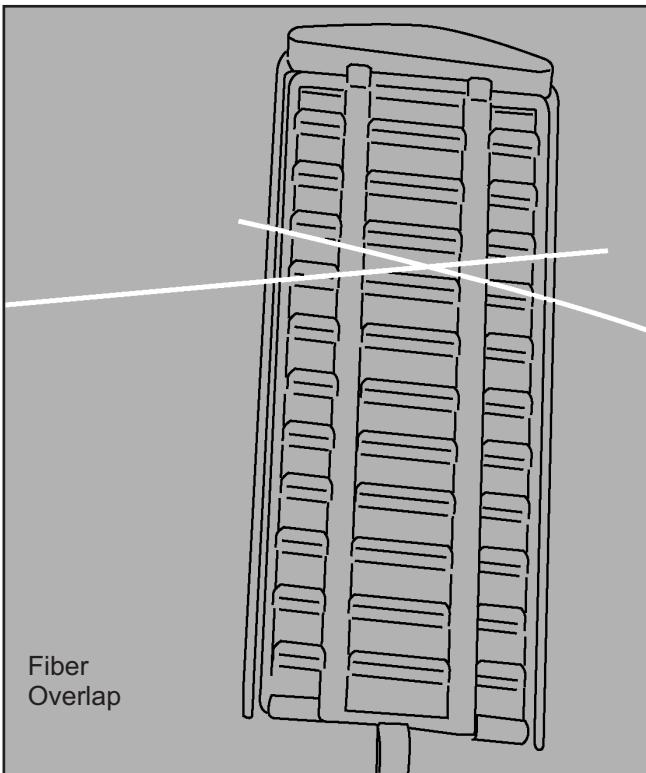

Figure 14
- By color code, select the individual fibers from the "express" and "drop." Buffer tubes should be spliced and route around the SLIDE-N-LOCK splice tray in opposite directions. Allow up to 1 meter (39") of fiber to be stored each side of the splice. Cut an overlap of approximately 60mm (2.3") at the point of splicing. (Figure 14)